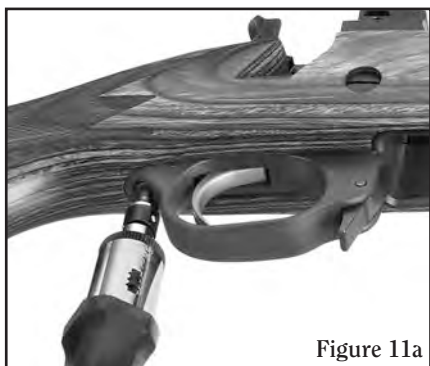

Figure 11a
b. Loosen and remove the screw that holds the Trigger Guard/Magazine well. See Figures 11a & 11b.